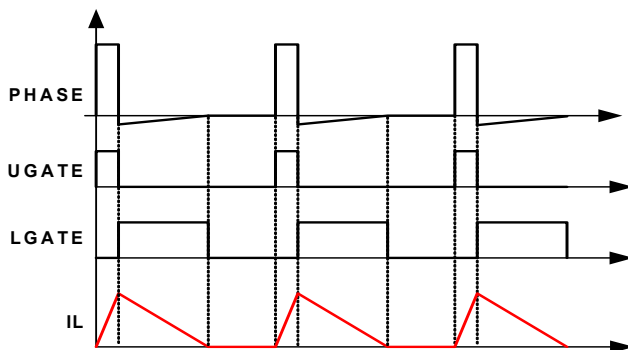

FIGURE 12. DIODE EMULATION
The ISL6277A can operate in Diode Emulation (DE) mode to improve light-load efficiency. In DE mode, the low-side MOSFET conducts when the current is flowing from source-to-drain and does not allow reverse current, thus emulating a diode. As Figure 12 shows, when LGATE is on, the low-side MOSFET carries current, creating negative voltage on the phase node due to the voltage drop across the ON-resistance. The ISL6277A monitors the current by monitoring the phase node voltage. It turns off LGATE when the phase node voltage reaches zero to prevent the inductor current from reversing the direction and creating unnecessary power loss.
If the load current is light enough, as Figure 12 shows, the inductor current reaches and stays at zero before the next phase node pulse, and the regulator is in Discontinuous Conduction Mode (DCM). If the load current is heavy enough, the inductor